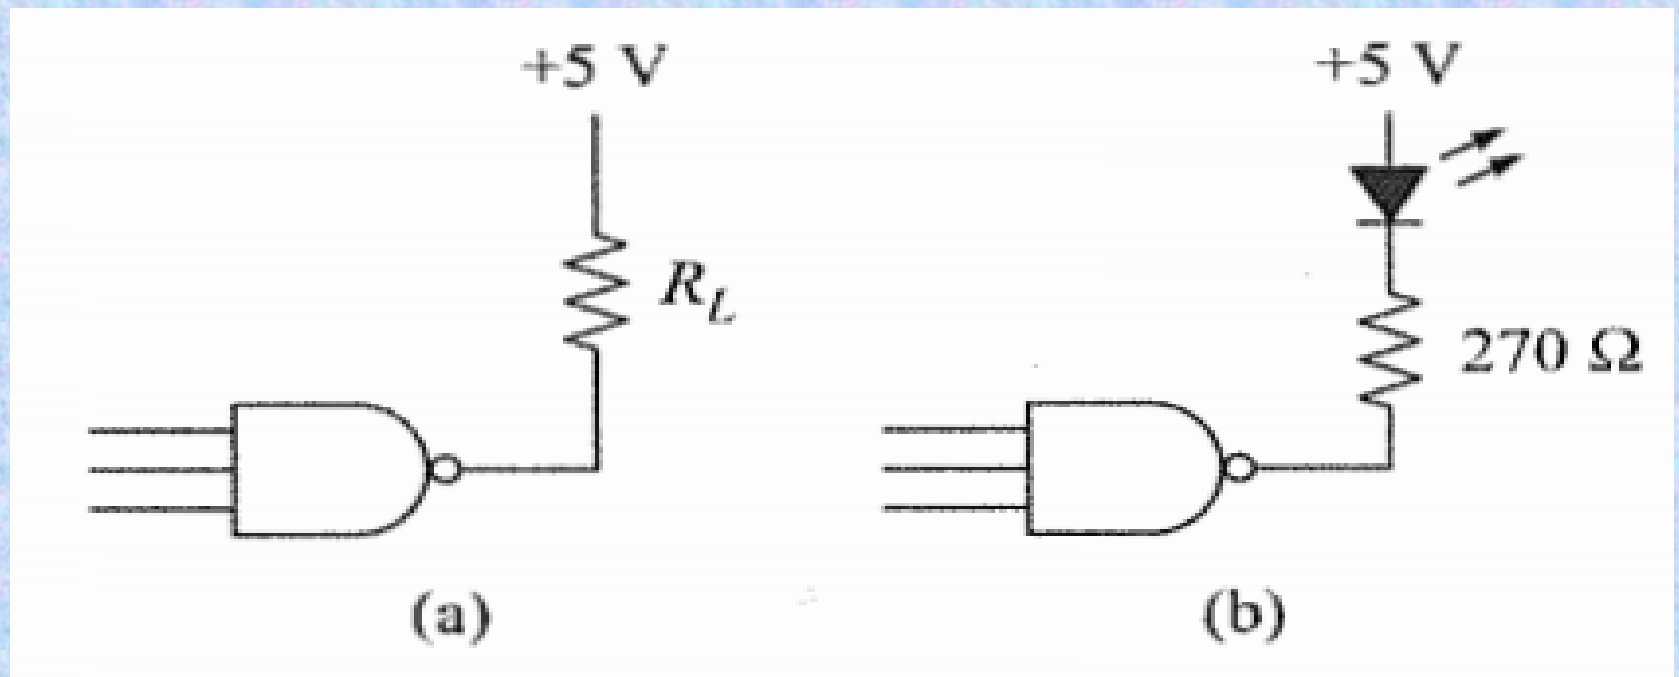

Fig. 1.27 (a) TTL output drives load resistor, (b) TTL output drives LED.
- Because standard TTL can sink up to 16 mA, you can use a TTL driver to control an external load such as a relay, an LED, etc. Figure 1.27 a illustrates the idea. When the TTL output is high, there is no load current. But when the TTL output is low, the lower end of R_L is ideally grounded. This sets up a load current of approximately